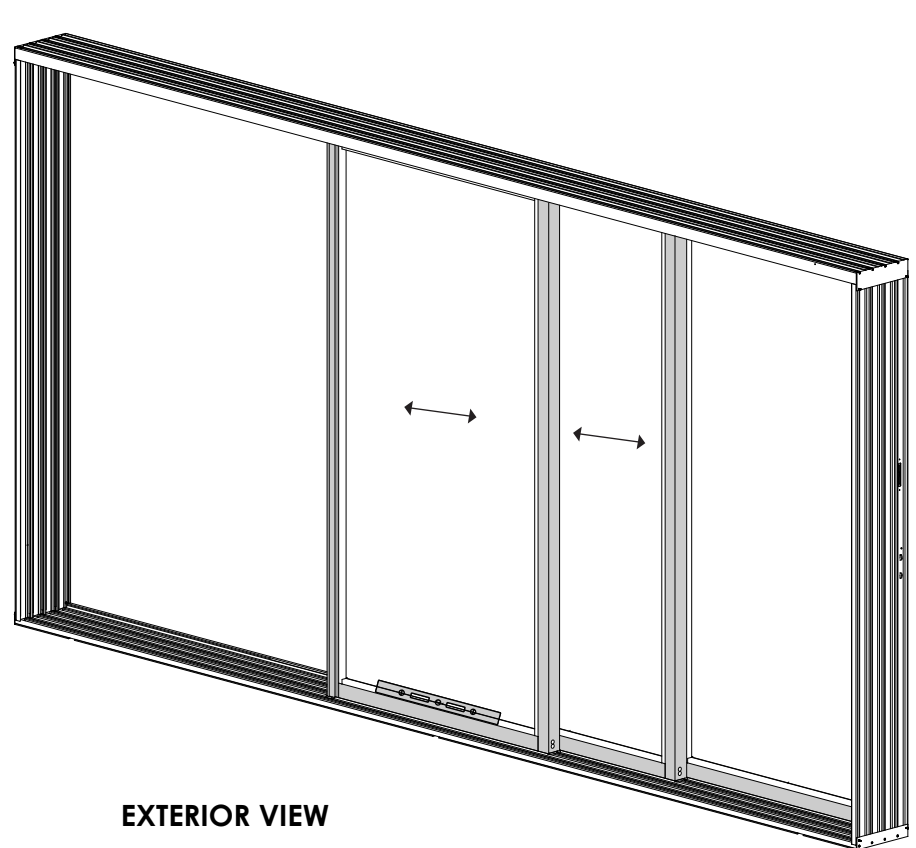

FIG 49
- Continue to adjust the rollers until the edge of Intermediate Panel is parallel to the edge of the panel next to it and the gap at the Head and Sill is equal. **[FIG 49]**